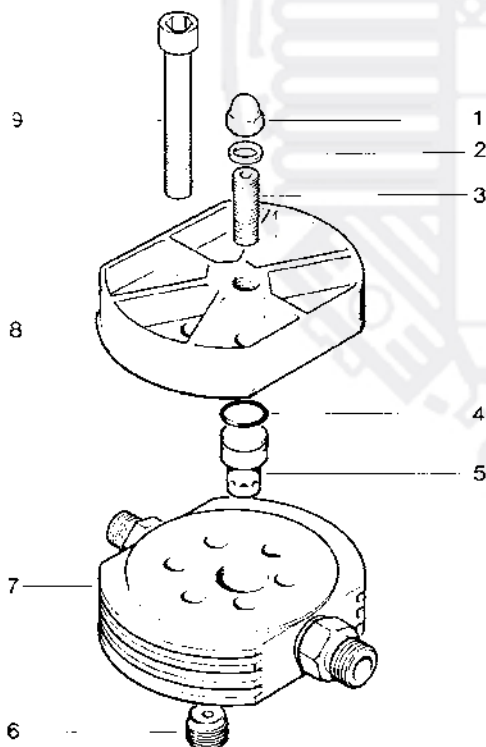

Fig. 26 Valve head 4th/5th stage
Pressure valve (5, Fig. 26) is merely inserted into valve head (7). It is sealed by O-ring (4) and fixed to the valve head by stud (3).